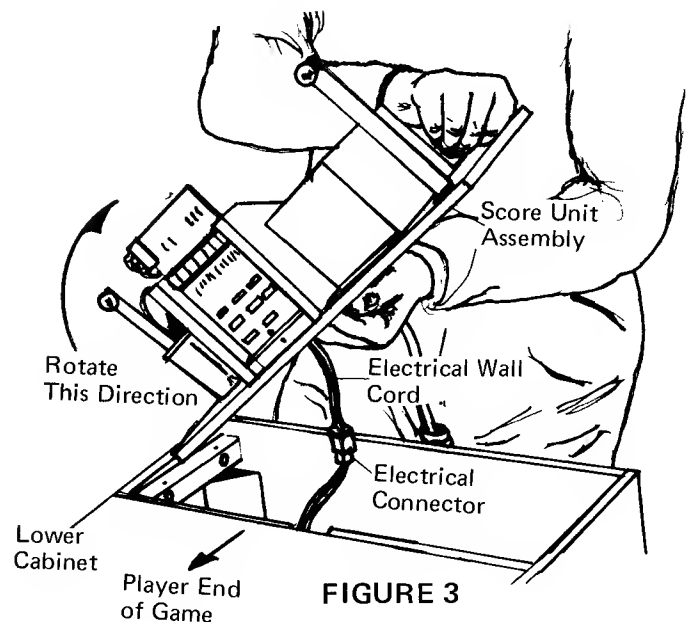

FIGURE 3
9. Standing at rear of **cabinet**, carefully lift the **scoring unit** straight up until the entire **score unit assembly** is clear of the **lower cabinet**. Turn **score unit** over, in a counter-clockwise direction, as shown in **Figure 3**. Reattach the **score unit** to **lower cabinet** with the two (2) Phillips Screws saved from Step No. 7.